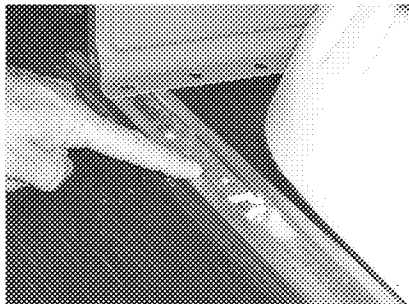

Figure 20
Step 06 Typical Shelving Unit into FSV Installation (Figure 20, 21, 22, 23)
Locate the floor rail kit extruded alum "sled" as shown in Fig. 20 and reposition the threaded hole directly under the end panel flange thru hole as shown in Fig. 21. Secure shelf flange to the "sled" with fasteners shown above. Leave fasteners loose at this time for easy repositioning of the shelf during the following steps. Repeat for the opposite end panel